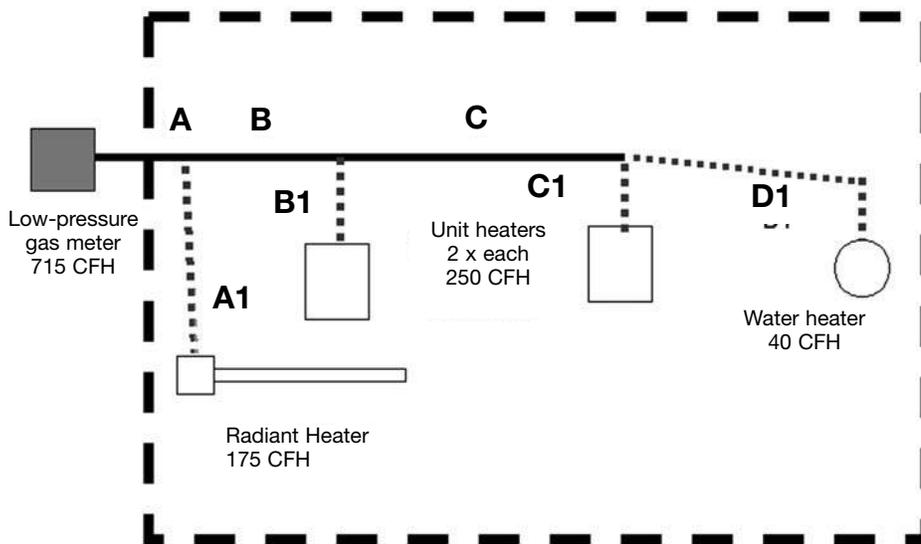

Figure 3-5
1. The system shown in figure 3-5 is a typical commercial building with 4 appliances. The gas pressure for this example is standard low pressure with 6-inch supply pressure and 0.5-inch pressure drop.